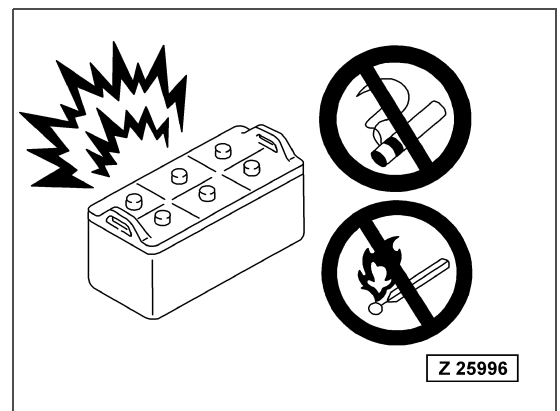

Fig. 2-48
- Never smoke or use any flame near the battery (Fig. 2-48).